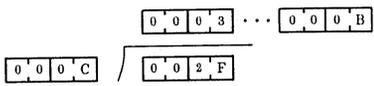

Fig. 2 DIV example when upper byte is not used
(2) User Notes
- (a) When not using upper byte as shown in Fig. 2, the upper byte should be held to "0", otherwise division result will not be correct, because division is performed with underfined data in the upper byte.